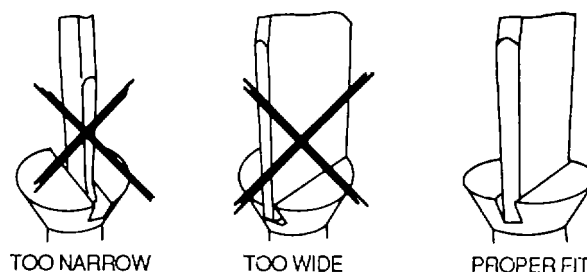

Figure 4-17. Proper Fit of Screwdrivers
(1) *Proper fit.* Select a screwdriver large enough so the blade fits closely in the screw slot. A loose fitting blade can slip and cause burring of the screw slot and damage to the blade. Proper and improper fits are shown in figure 4-17. It is important that the screwdriver be held firmly against the screw to prevent it from slipping and possibly injuring the mechanic or scarring the work.